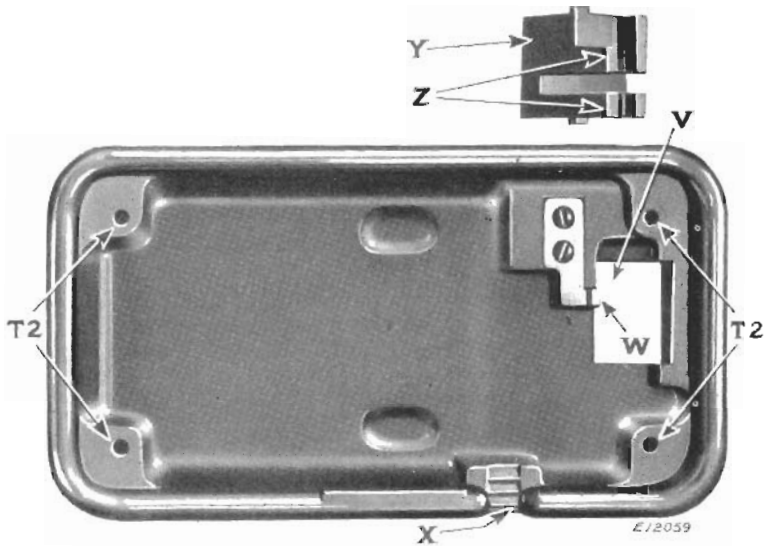

FIG. 29. INSIDE VIEW OF COVER OF BAKELITE CONVERTIBLE FOOT AND KNEE CONTROLLER—SHOWING PEDAL DISENGAGED FROM COVER
Convertible Foot and Knee Controller. Remove the complete controller and leads from the cabinet. Remove the four screws which fasten the cover, Fig. 29, to the base, Fig. 27, at (T2). If, after removal of these four screws, the cover adheres tightly to the base, **do not attempt to pry it off, as such procedure would mar or break the cover or base or both.**
With the four fastening screws removed, hold the controller in the left hand and, with the right hand, press the pedal (Y, Fig. 29) all the way down. This will disengage the base from the cover. Inspect the wires and connections at (D, Fig. 27).
(See Fig. 29.) Probably the pedal (Y) became separated from the cover as the latter was removed from the controller base. Note that its replacement in the cover is not possible except in the correct manner, viz: Insert from the inside of the cover and with one of the two long projections (Z) against the metal guide (W).